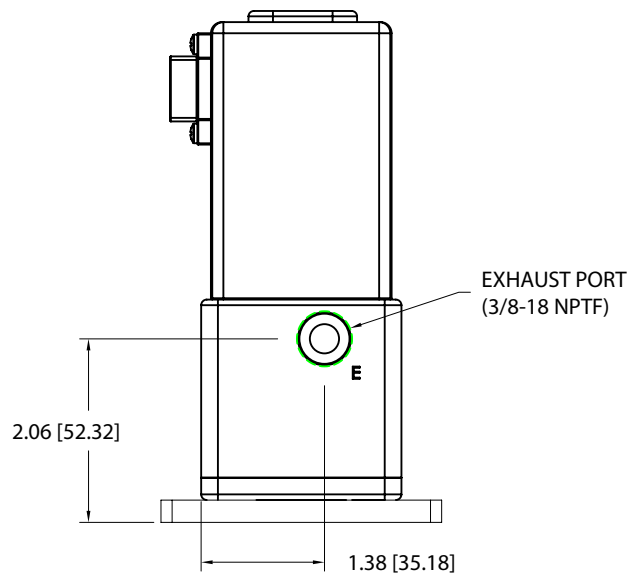

Figure 2
1. Connect vacuum supply to the exhaust port (Figure 2). The auxiliary exhaust port must be plugged with the 1/16" NPT pipe plug provided to prevent atmospheric air from leaking in to the vacuum supply.